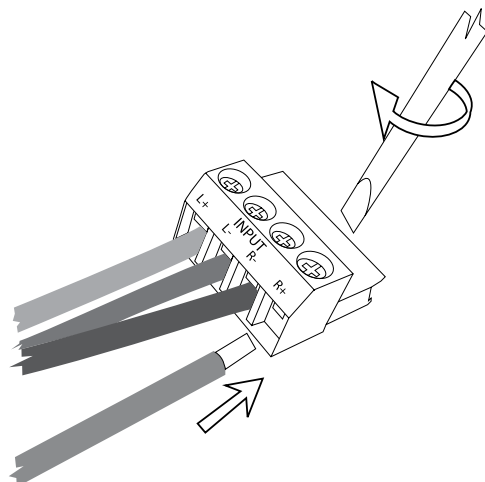

Figure 1
2. Strip a ¼-inch (7mm) of insulation from the end of the wires. Connect the wires to the removable connector plugs using a small, standard-head screwdriver (see **Figure 1**). The plugs are labeled to simplify installation.